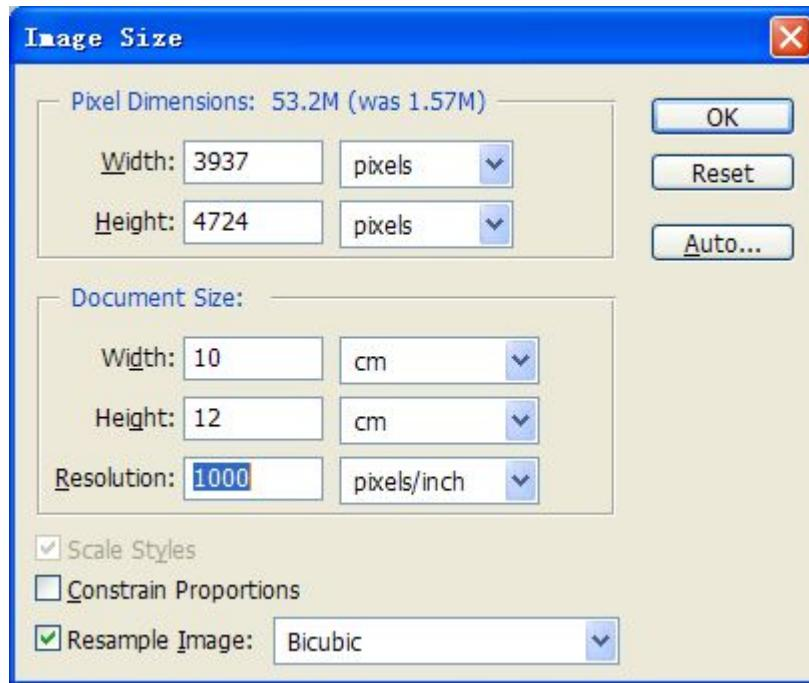

Figure 5-3
2、In the column Document Size/ Height and Width, input the value you wanted, figure 5-3 followed;
Such as figure 5-3: the converted graph size is 10cm*12cm, the resolution is 1000 pixels per inch;